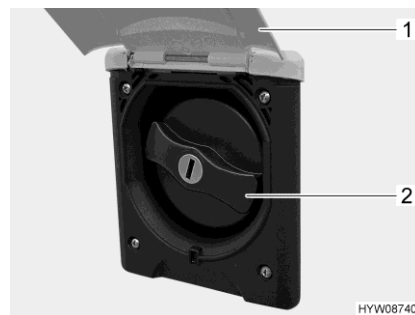

Fig. 204 Cap (drinking water filler neck)
- Swivel the external flap (Fig. 204,1) upwards.
- Turn the blue cap (Fig. 204,2) one quarter turn.